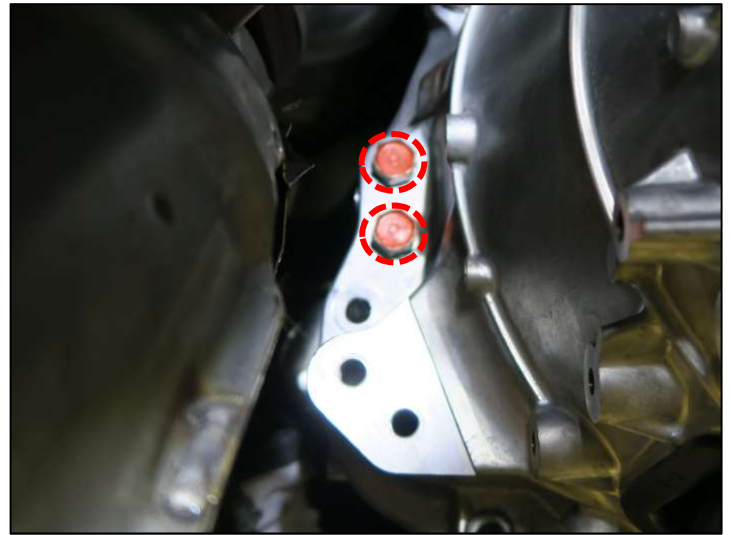

Figure 66
66. Remove the (2) remaining transmission to engine bolts on the LH side of the transmission. (Figure 66)